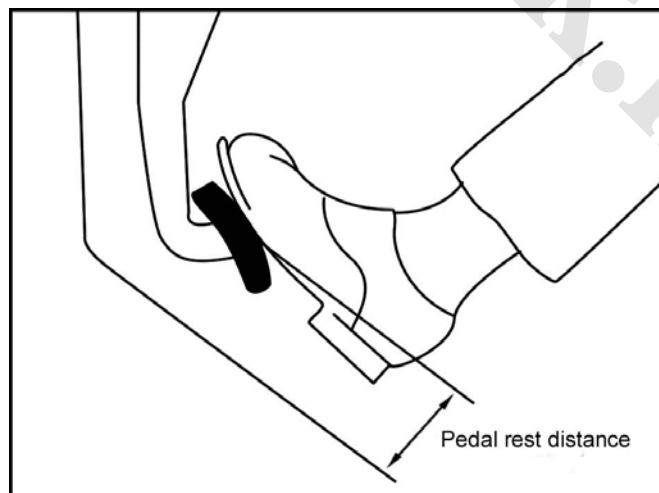

Fig. 2-45
4. Check the braking distance. Fig. 2-45.
Loosen the push rod of the parking brake. When the engine runs, step down the pedal. Measure the braking distance as shown in Fig. 2-45. Step down the pedal by a force of 140N. The braking distance should be over 55mm above the floor. In case of a distance out of specifications, diagnose the brake system.